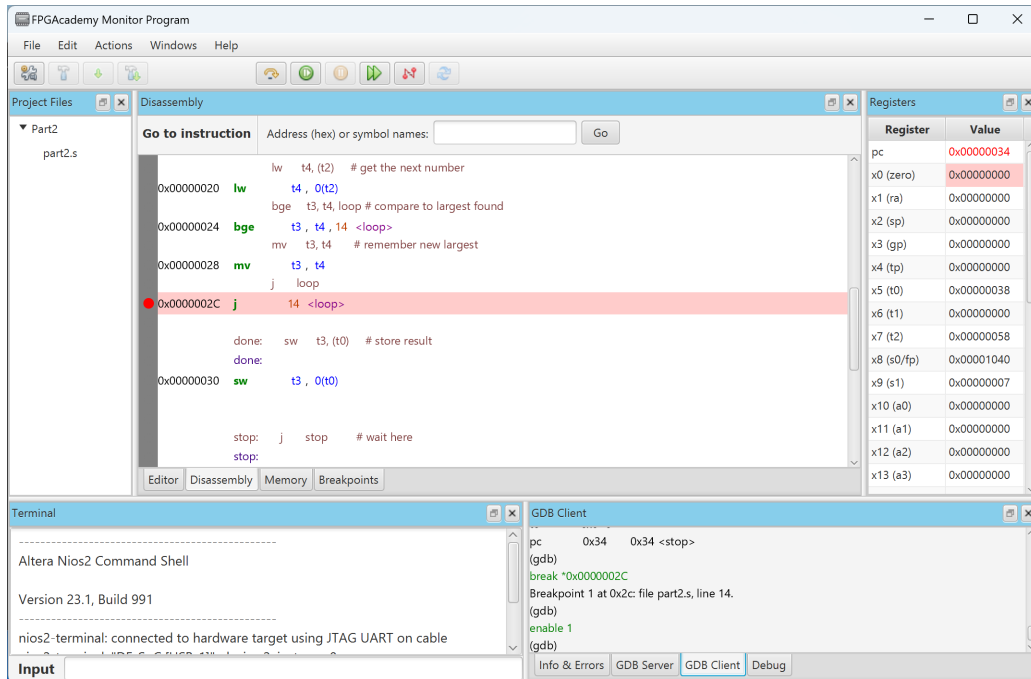

Figure 24: Setting a breakpoint.
7. Now set a breakpoint at address `0x0000002C` by clicking on the gray bar to the left of this address, as illustrated in Figure 24. Restart the program and run it again. Observe the contents of register `t3` each time the instruction at the breakpoint, which is `j loop`, is reached.